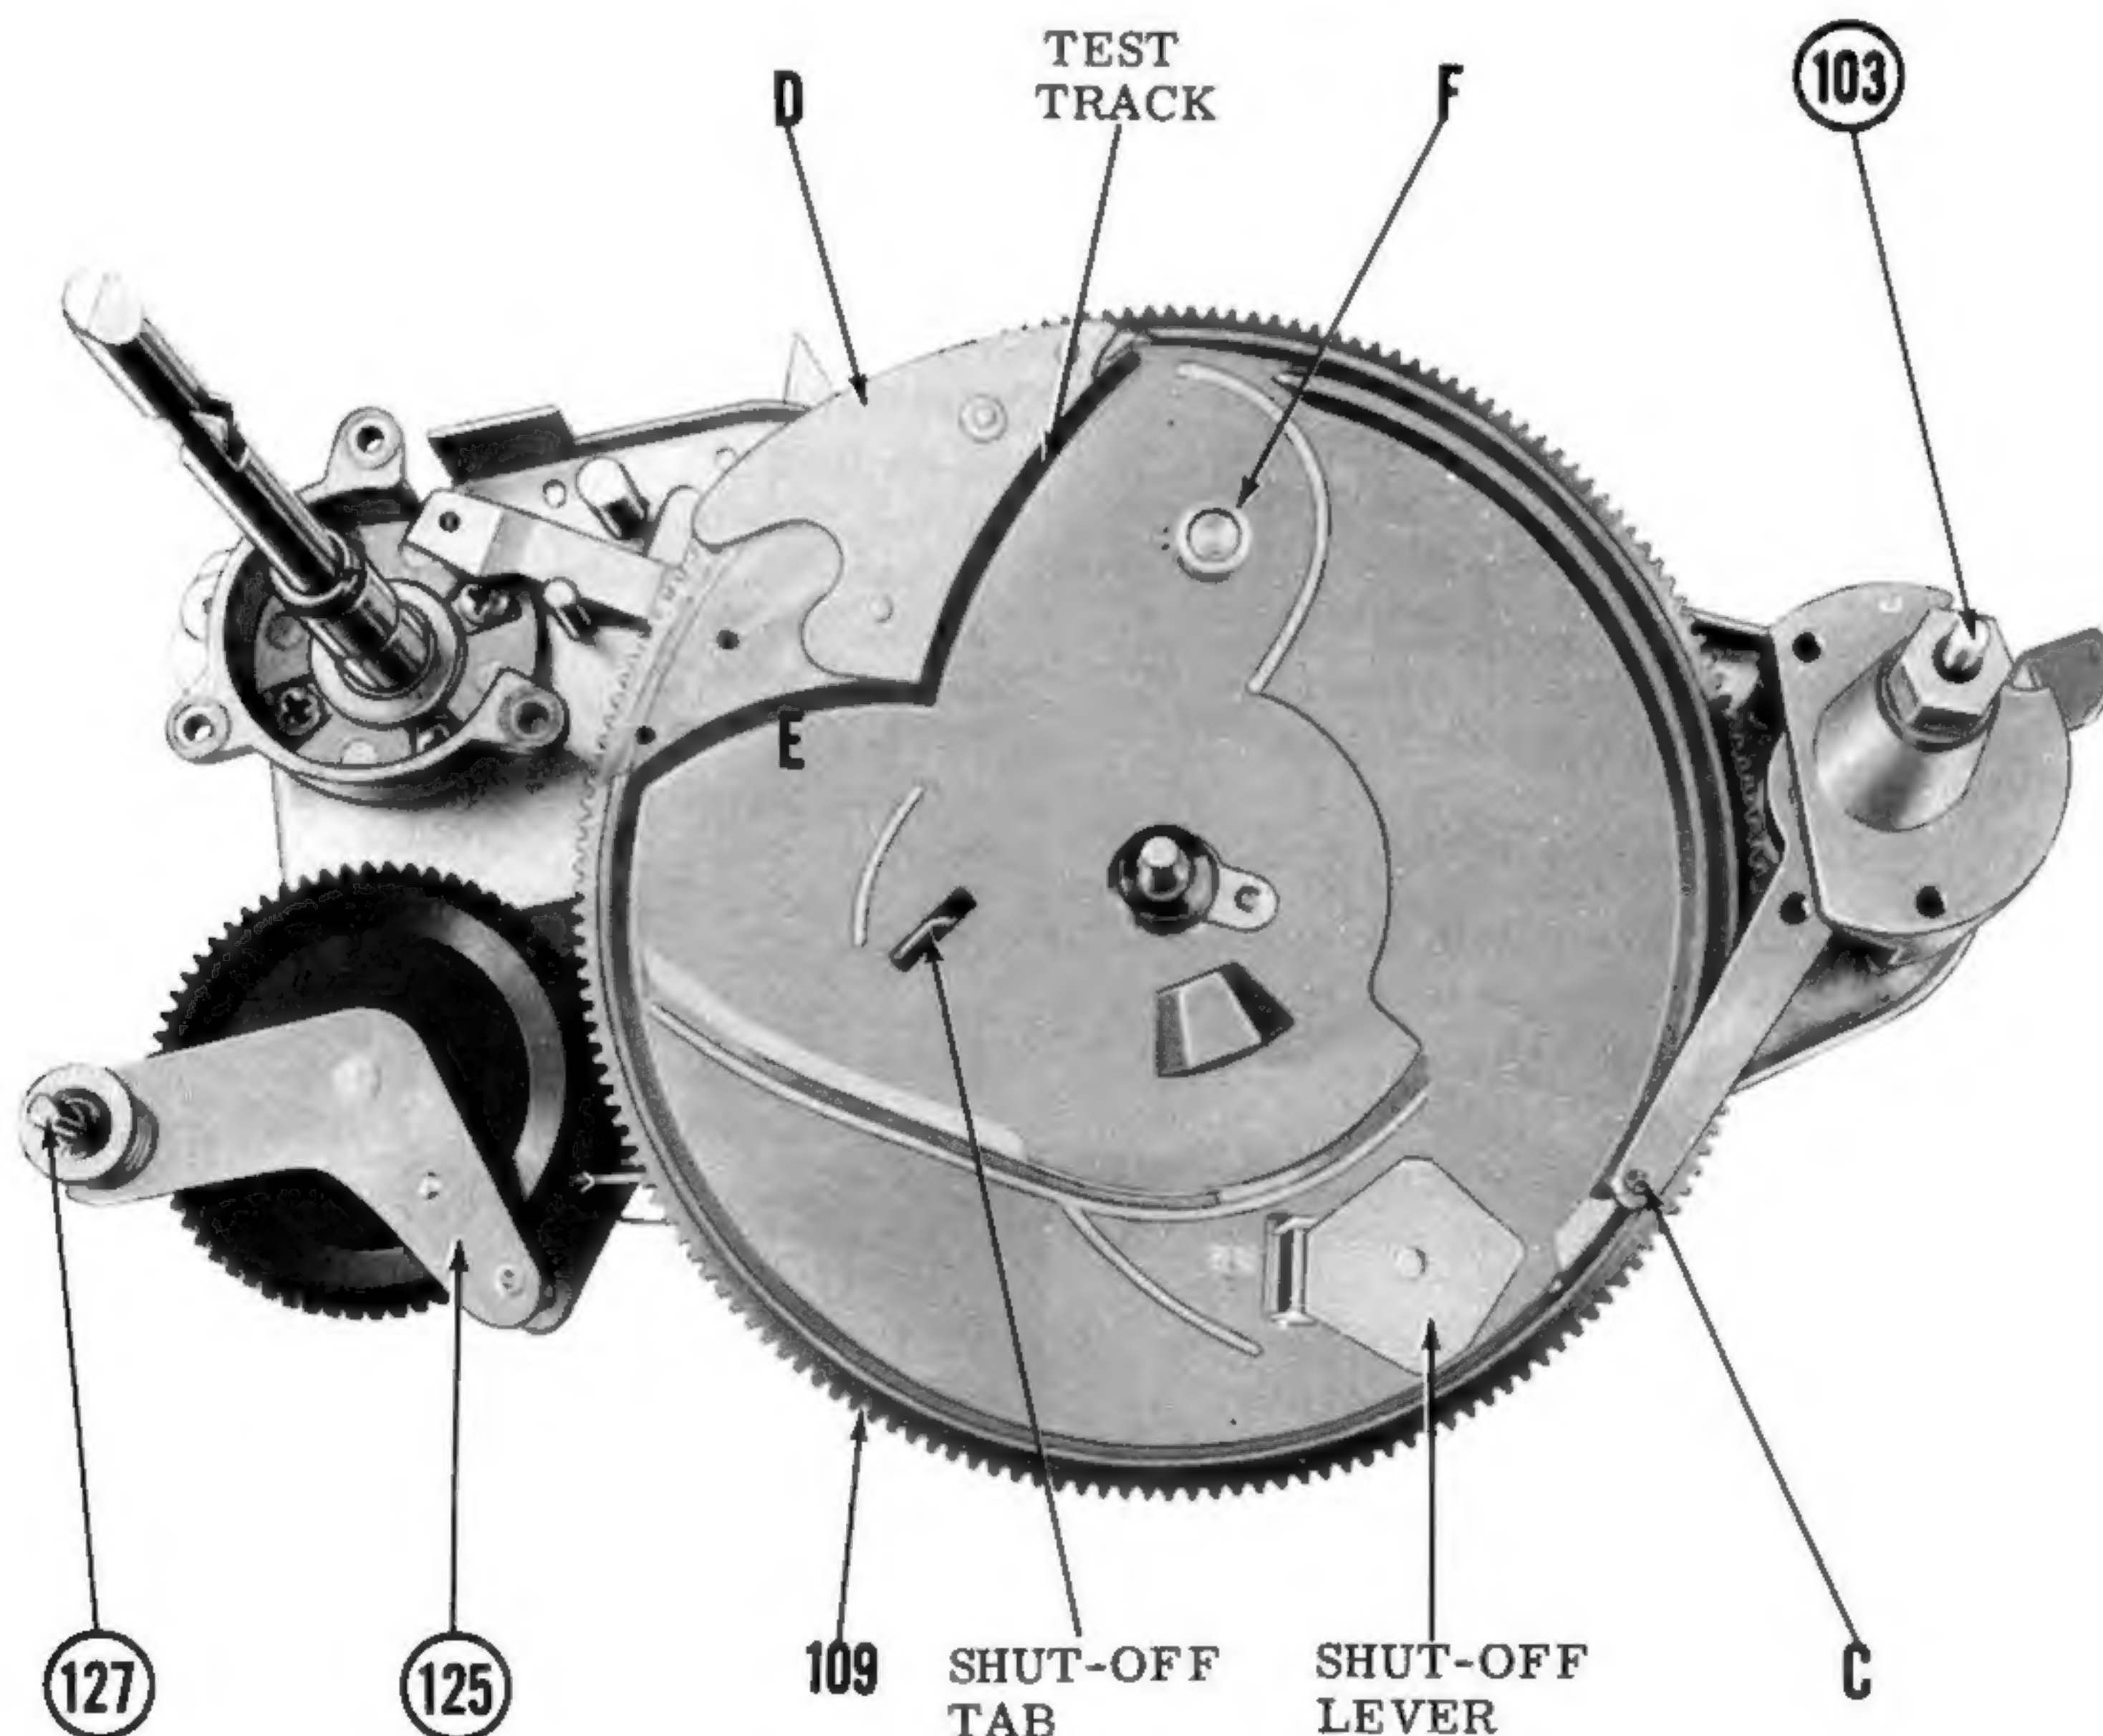
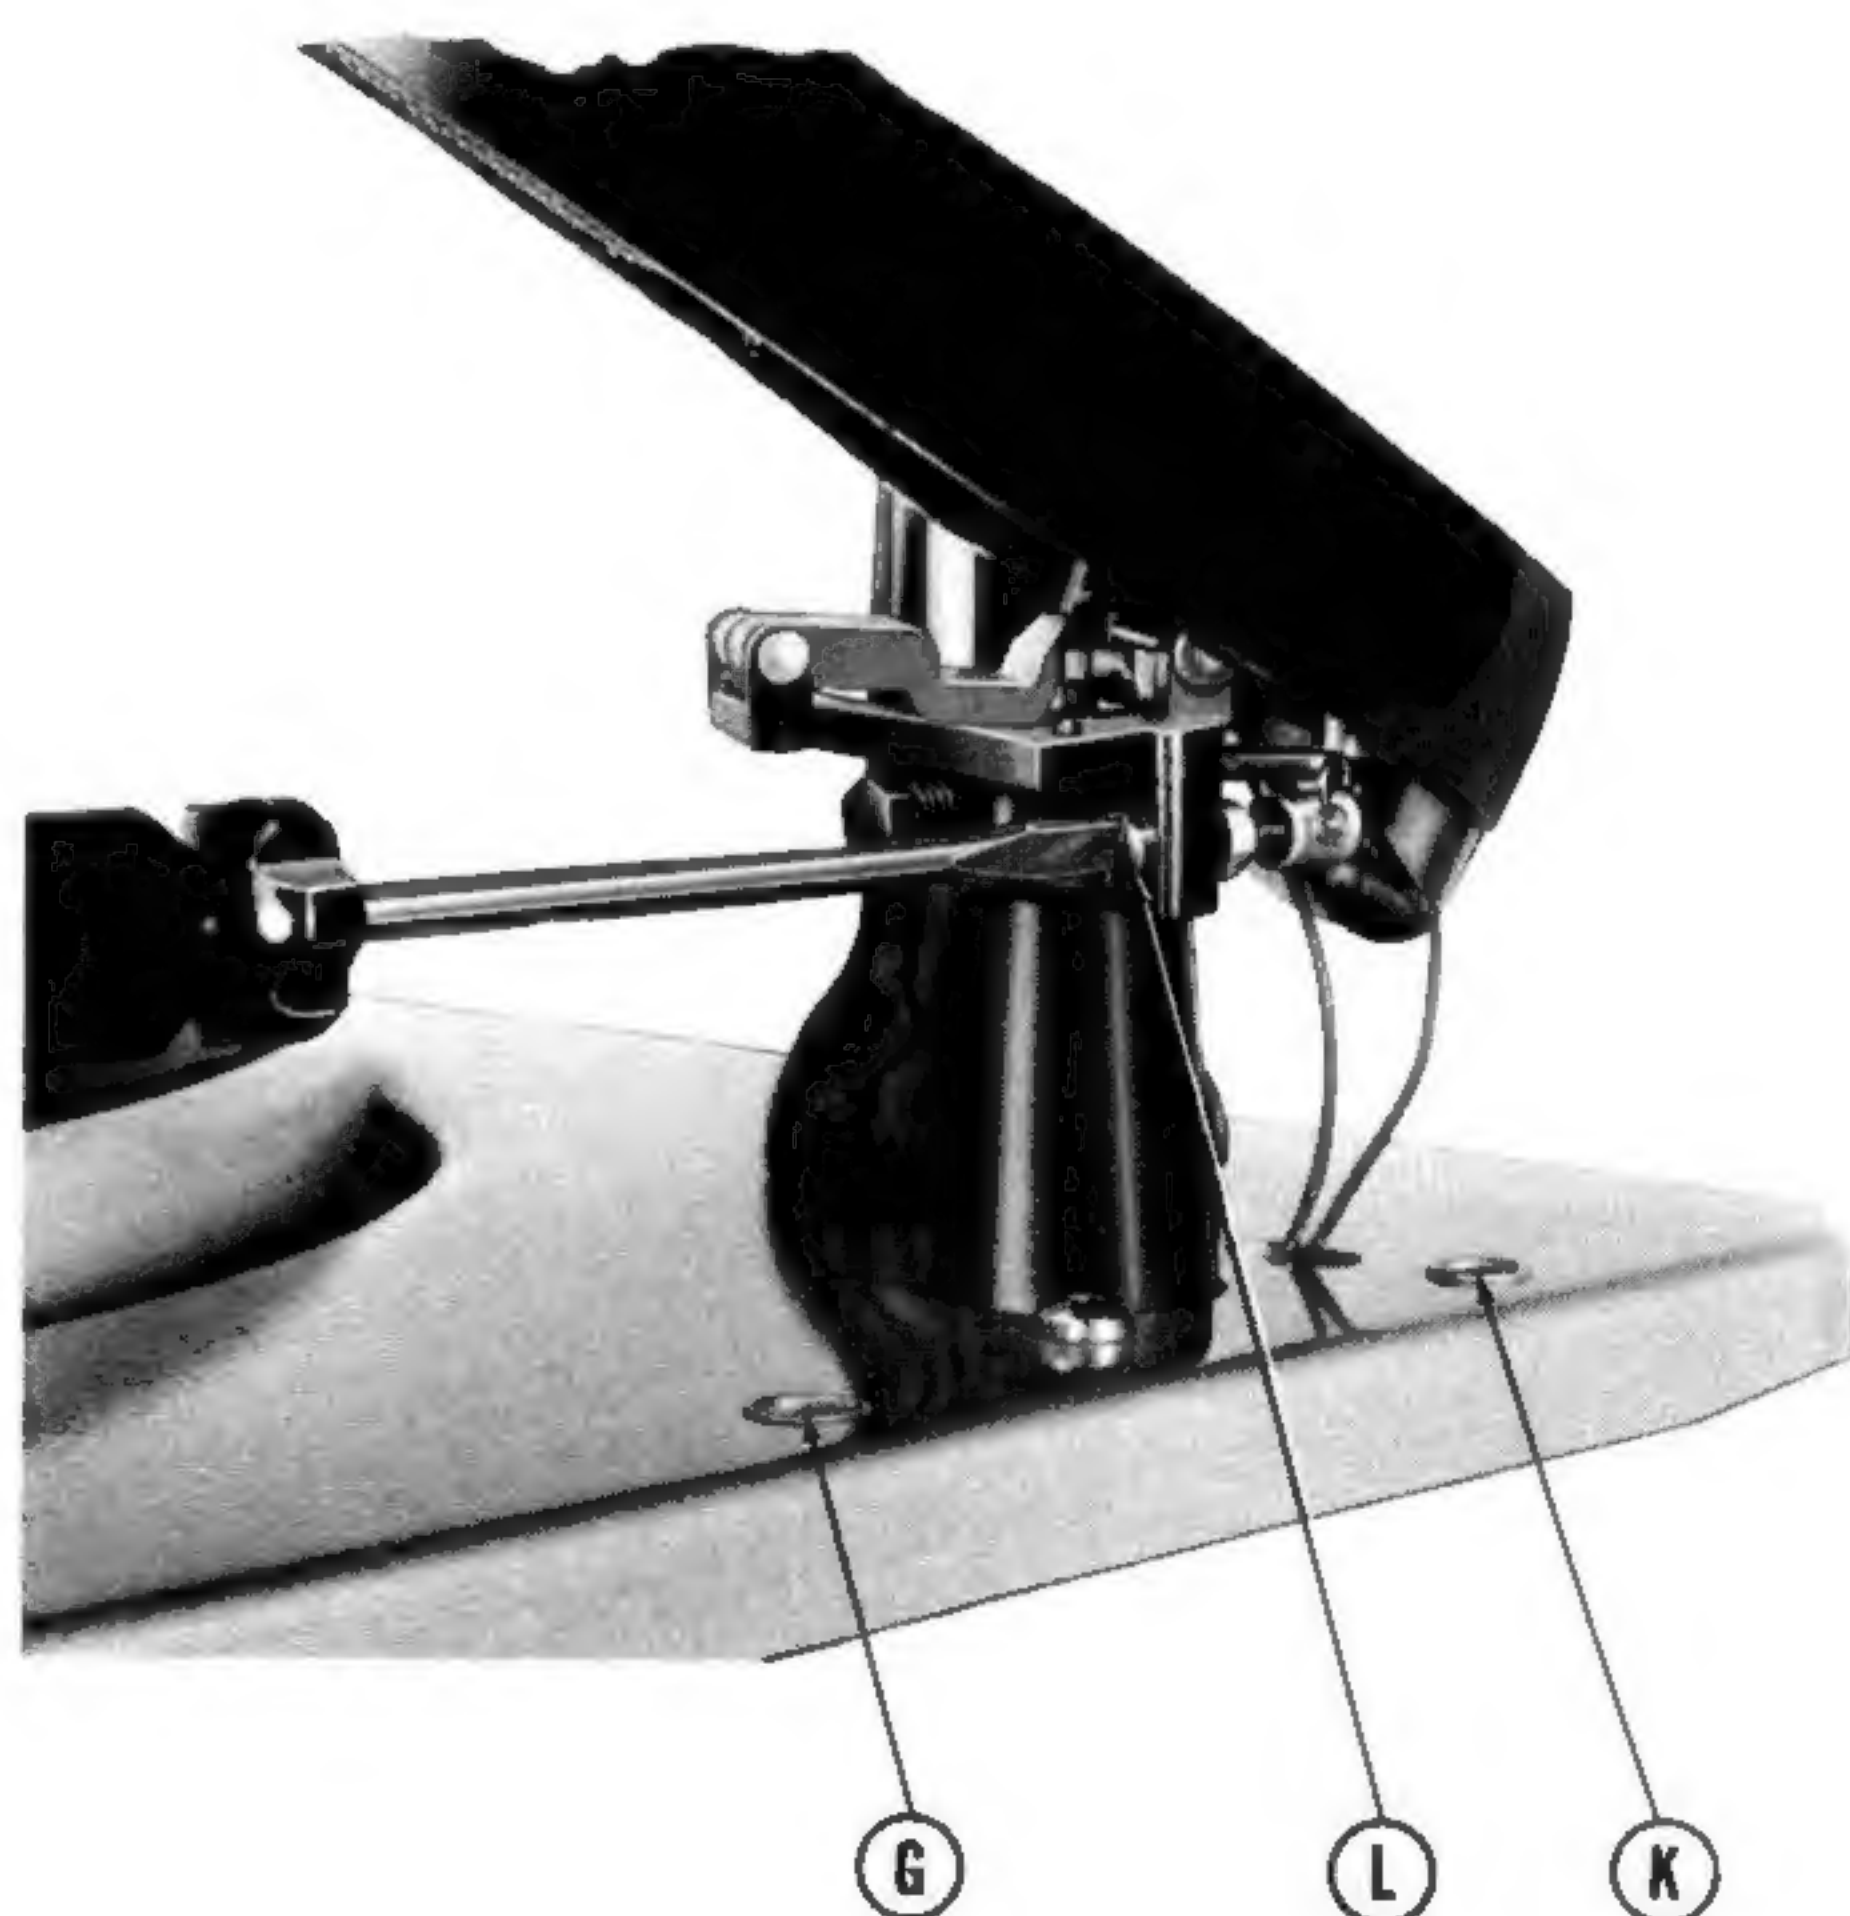

Figure 4--Top View of Sub-Plate Assembly
Figure 5
The Main Cam Gear (109) begins to rotate and the Following Pin "C" moves down the Test Track, carrying the tone arm in toward the center of the turntable. Since the arm does not contact a record, the Following Pin "C" will now leave the test track, move through the sloped groove to the outside groove in the Cam, thus swinging the tone arm out to its rest position. At a point during the rotation of the Main Cam Gear, the Following Pin will lock the Shut-Off Lever on the Cam so the Shut-Off Lever Tab will be in its outer position (see Figure 4).
This adjustment has been accurately set at the factory, however, should adjustment be required in the field, a screwdriver adjustment "G" (Figure 5) is provided in the base plate just forward of the tone arm pivot. This adjustment consists of an eccentric cam which contacts Lever "D" on the Main Cam Gear (See Figure 4).
Check to see if the Cam Following Pin "C" is rubbing bottom of cam groove when in the "playing recess". This pin is properly positioned when it touches halfway up ramp "E" (see Figure 4).
The Tone Arm Height Adjustment Screw "K" (Figure 5) is used to set the height to which the tone arm raises during the change cycle. During the change cycle the tone arm is lifted up and moved out over the rest post. During this time the clearance between the top of the tone arm and the underside of the next record on the shelf should be approximately 1/4". To obtain this setting, rotate screw "K" clockwise to lower the tone arm or counter-clockwise to raise it.
Use a suitable gram scale and following the manufacturers instructions check the stylus pressure. Stylus pressure is set by rotating screw "L" in Figure 5. Stylus pressure is to be set for 3 grams plus or minus 1/2 gram.
1. Unsolder pickup leads from Muting Switch (142) and remove turntable as outlined under "Turntable Removal".
2. Remove the Drive Wheel retaining screws (18) and lift off Drive Wheel (17).
4. Remove three self-tapping screws (92) around Turntable Spigot Housing and two from around the tone arm swivel base. As the last of these screws is removed, the entire sub-plate mechanism will fall free, therefore, a hand should be placed below to avoid damage when the sub-plate falls clear. The sub-plate now appears as shown in Figure 4.
5. Reverse the foregoing procedure to re-install Sub-Plate Assembly. It will be necessary to realign the Drive Wheel (17) so that it contacts the motor pulley exactly in the center of the 45 RPM step. NOTE: Be sure the motor is completely suspended during this adjustment.